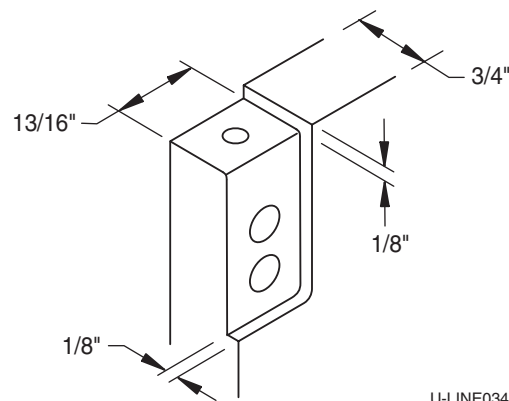

Figure 2
2. Create a relief (**Figure 2**) for pivot plate by cutting notch in top corner and coinciding back corner of panel. Refer to the following figures for exact specifications.